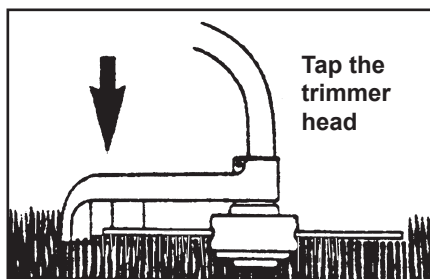

Fig. 14.
2. Bang the trimmer head on the ground and lift it up again. See fig. 14.